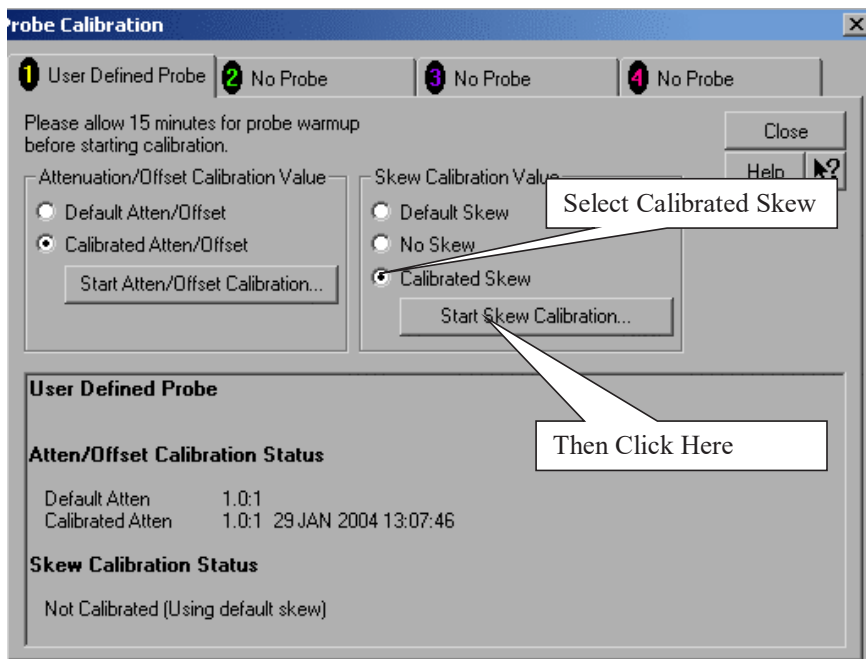

Figure 14 Probe Calibration Window.
- 8 Referring to **Figure 14** below, perform the following steps: